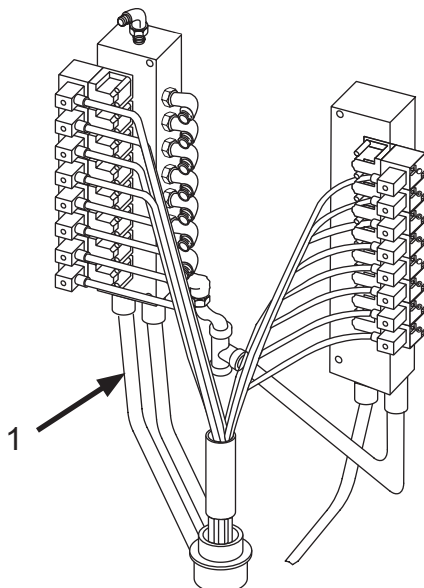

Figure 9
3. Disconnect the inlet line (Figure 9, Item 1).